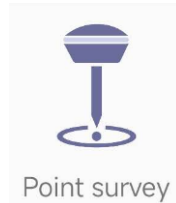

Figure 4-9 Point survey in Survey module
- (1) In the Anypos app, open or create a **Project**.
- (2) Navigate to the **Project page** and configure the **Coordinate system**. If you're using a custom local reference frame, set it here. If available, connect to an RTK base or CORS stream to enhance positioning accuracy. If not, the G1000 will fall back to SPP (Single Point Positioning) solution or SBAS based DGPS solution.
- (3) Open the **Survey** module and select **Point Survey** (Figure 4-9).